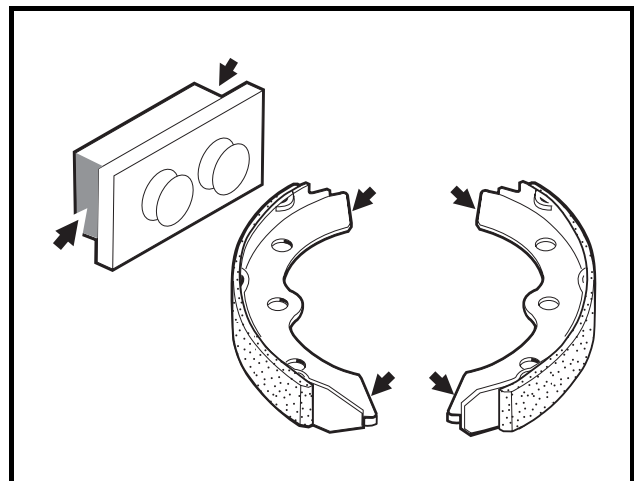

Figure 6-10 Apply Grease To Brake Shoes and Slots
5. Use a small brush to carefully apply a light coat of white lithium NLGI #2 grease (Dow Corning BR2-Plus or equivalent) to each end of both brake shoes and into the slots in the brake shoe mounting block as shown (**Figure 6-10, Page 6-5**). **See preceding WARNING.**